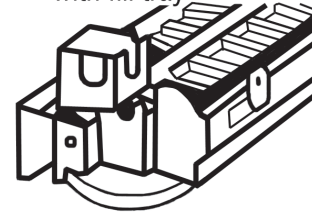

Figure 6
5. Check position of water inlet fill tube, align with fill tray. (see Figure 6).